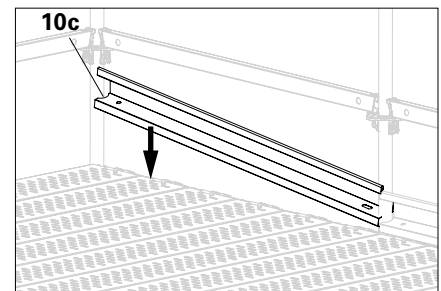

Fig. A2.16b
3. Semi-circle (10c) must be positioned at the level of the Standard UVR (4b), then lower. (Fig. A2.16b)